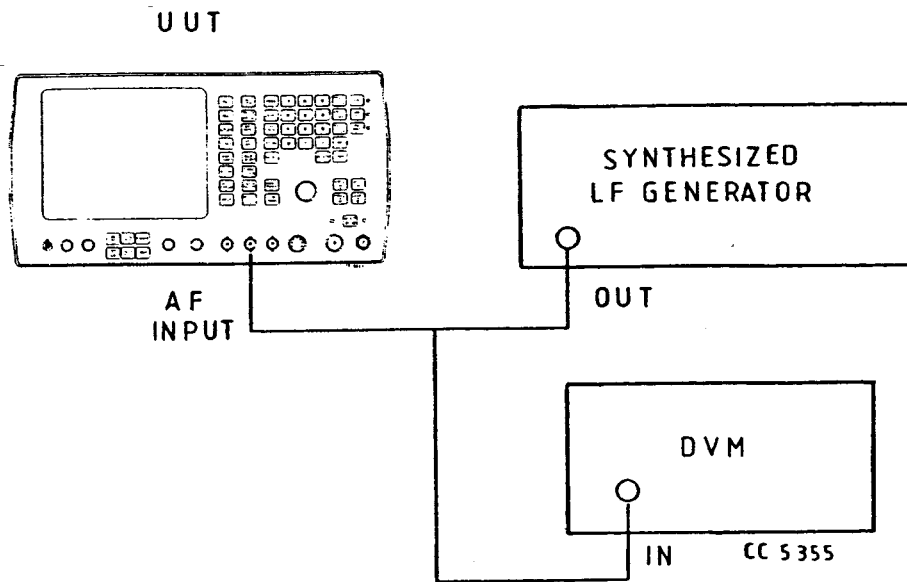

Fig. 40 Test equipment connections for adjusting R209 on AB5
- (1) Connect the equipment as shown in Fig. 40.
- (2) Set the synthesized l.f. generator to give a 1 kHz sinewave and adjust the level for an indication of 0.707 V r.m.s. on the d.v.m.
- (3) Adjust R209 for a 2 V p-p (4 divisions) indication on the 2955 oscilloscope.